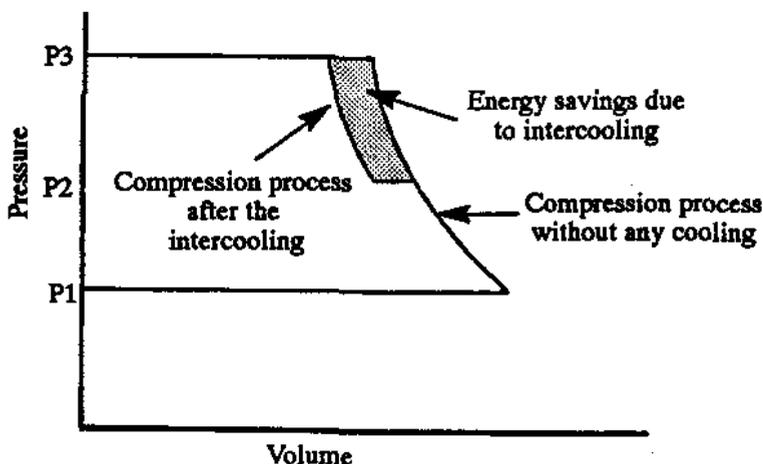

Figure 2.4: Effect of Intercooling
Figure 2.4 shows a two stage compression process. The overall compression between pressure P_1 and pressure P_3 is done in two stages, with the intermediate pressure being P_2 . At P_2 , the intercooler will cool the air while its pressure remains constant*, causing the volume of the air to decrease. This moves the process line shown in the diagram horizontally toward the isothermal process (starting point for the high pressure stage (HP) is now cooler). The energy saved per cycle, as a result of intercooling, is represented by the shaded area in Figure 2.4.